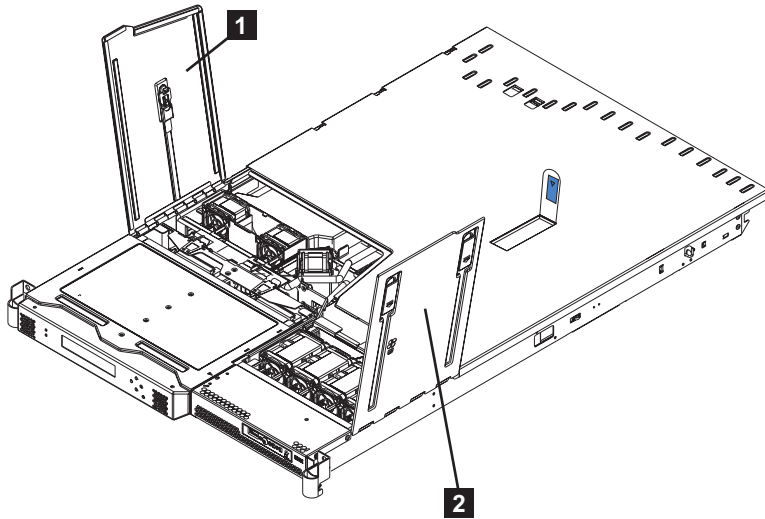

Figure 80. SAN Volume Controller 2145-8F2 or SAN Volume Controller 2145-8F4 with fan doors open
2. Open fan door A (**1** in Figure 80) of the node.